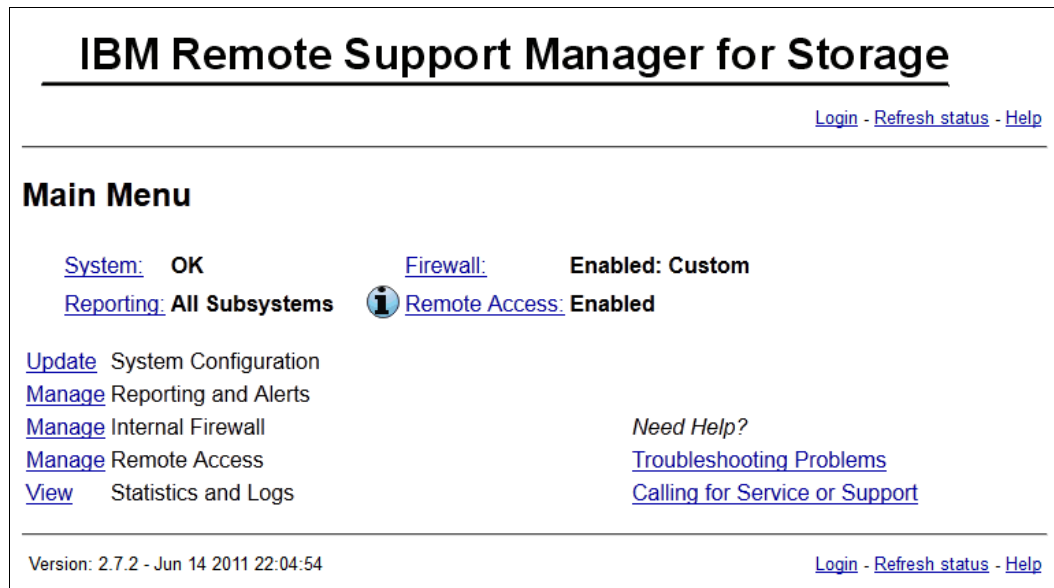

Figure 6-28 RSM main menu: Configured
When the RSM for Storage system is ready to receive events, the System Status will be OK. See Figure 6-28 on page 484.
1. Click **Remote Access** from the Main Menu as shown in Figure 6-28 on page 484.
1. Click **Firewall** on the Main Menu, as shown in Figure 6-28 on page 484.